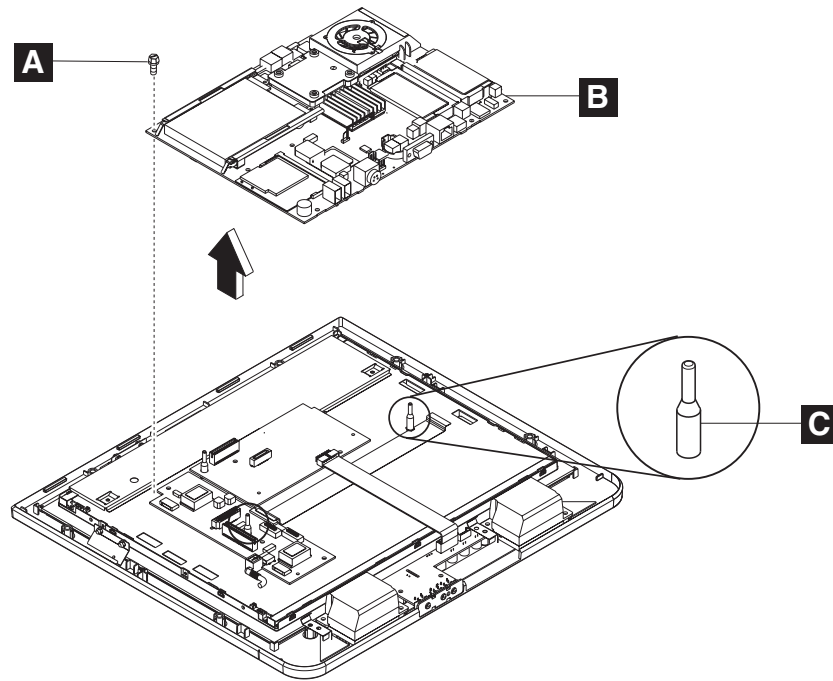

Figure 25. Removing the system board
4. See Figure 25 and remove the 5 screws ( **A** ) holding the system board ( **B** ).